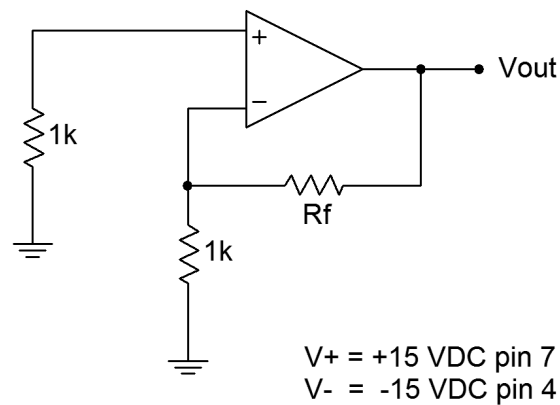

Figure 1
1. Note that the circuit of Figure 1 is a non-inverting voltage amplifier. Calculate the voltage gains for the amplifier of Figure 1 for the  $R_f$  values specified, and record them in Table 1.
9. Build the circuit of Figure 1 in a simulator using a 741 op amp and 47k for  $R_f$ . Run a DC Operating Point analysis to determine the DC output voltage. Compare this to the results measured in Tables 1 and 2. Repeat the simulation with all resistors 10 times larger, and again with all resistors 100 times larger.